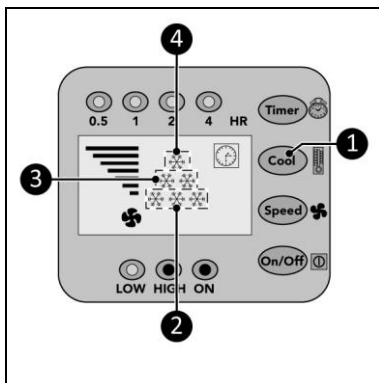

Figure 12
1. Press the Cool button (Figure 12, pos. 1) repeatedly to set the required ambient temperature:
- 28 °C, the display will show 1 cool indicator (Figure 12, pos. 4).
- 25 °C, the display will show 2 cool indicators (Figure 12, pos. 3).
- 22 °C, the display will show 3 cool indicators (Figure 12, pos. 2).
- <22 °C, the display will show 6 cool indicators (Figure 12, pos. 2, 3 and 4).